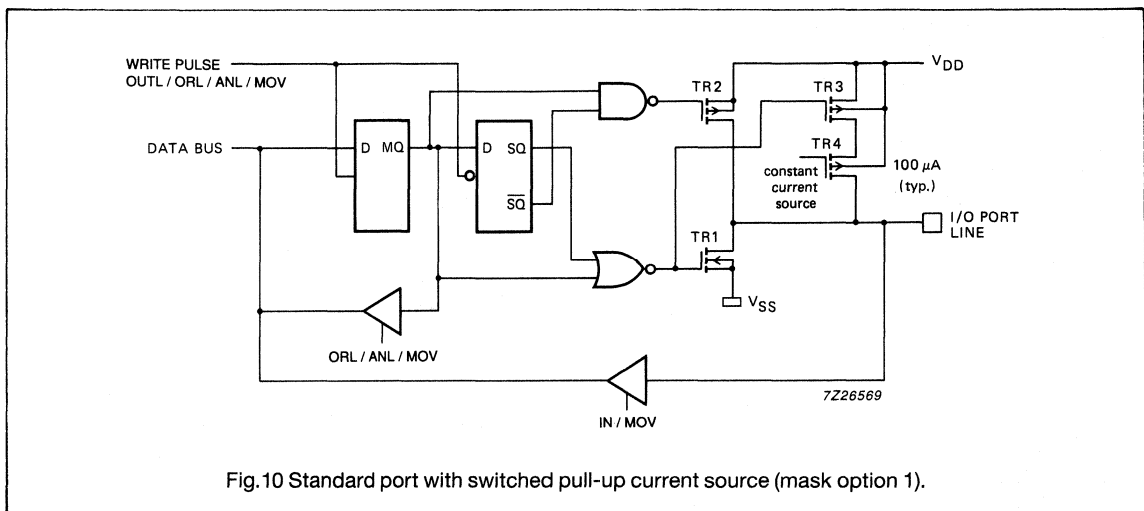

Fig.10 Standard port with switched pull-up current source (mask option 1).
The standard port configuration is shown in Fig.10. When a logic 0 is written to the master/slave flip-flop, TR2 and TR3 are turned off, turning off the constant current source. Current sinking is provided by TR1 which is simultaneously turned on, and the output is pulled LOW to V_{SS}.
- Option 1 Standard Port: quasi-bidirectional I/O with switched pull-up current source (100 μ A typ.) and p-channel booster transistor TR2. TR2 is only active for 1 clock cycle during 0-to-1 transitions (Fig.10).